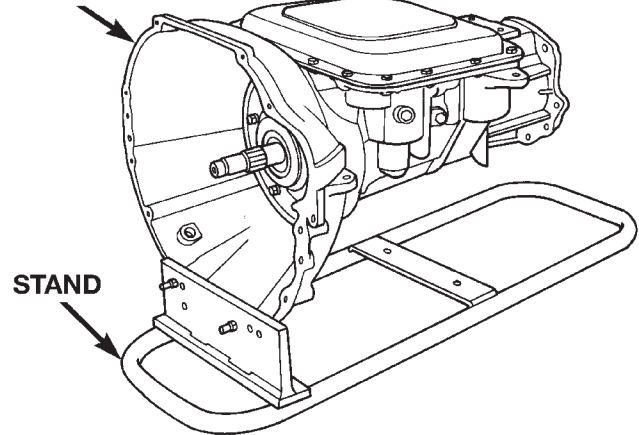
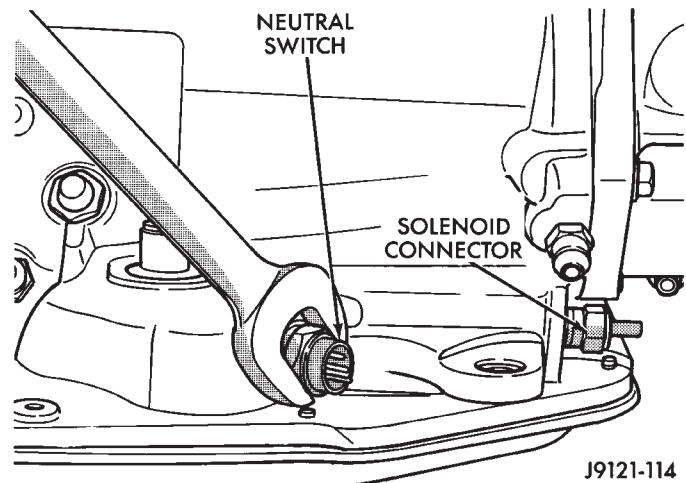
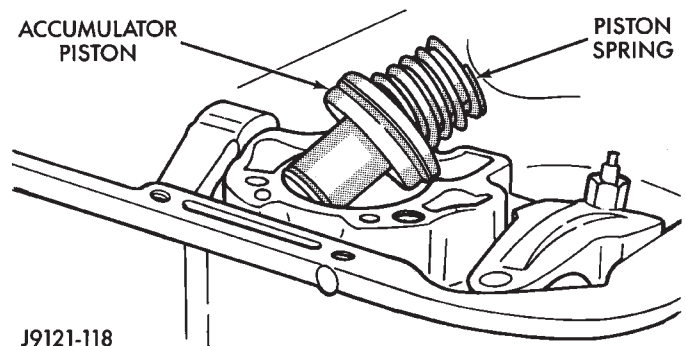

Fig. 69 Repair Stand
Fig. 70 Park/Neutral Position Switch
Fig. 71 Accumulator Piston And Spring
- (1) Remove transmission from vehicle.
- (2) Install a suitable tail shaft housing plug to avoid contaminating internal components with cleaning solvents.
- (3) Clean exterior of transmission with suitable solvent or pressure washer.
- (4) Remove torque converter from transmission.
- (5) Remove throttle and shift levers from valve body manual shaft and throttle lever shaft.
- (6) Mount transmission in repair stand C-3750-B or similar type stand (Fig. 69).
- (7) Remove extension housing.
- (8) Remove fluid pan.
- (9) Remove park/neutral position switch and seal (Fig. 70).
- (10) Remove valve body.
- (11) Remove accumulator spring and piston (Fig. 71).